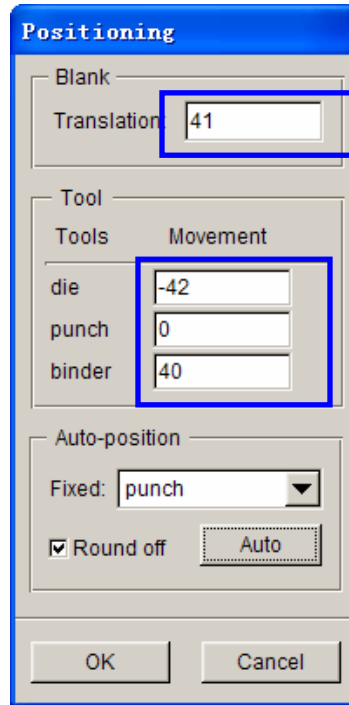

Figure 91: After positioning
4. Now, all tools and blank(s) are moved to a preset position. The value behind every tools is the distance from the home position to the current position. See Figure 91.